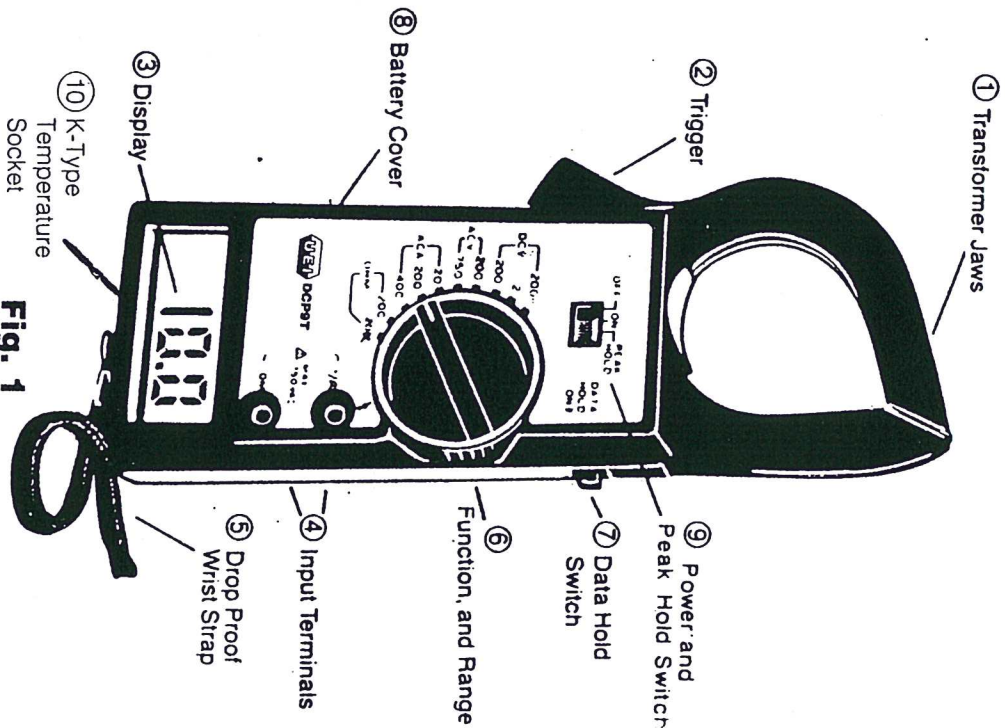

Fig. 1
3. Slide the battery cover (10) Fig. 1, away from the instrument and remove the battery.